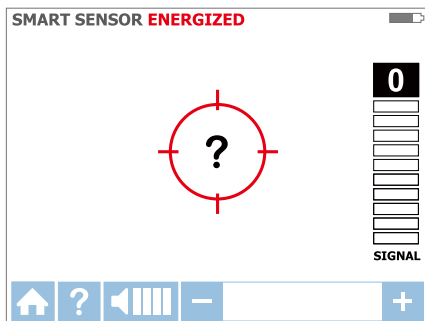

Figure 3.1d: No signal detected
3. Hold the Receiver with the Smart Sensor™ facing the target area. If the screen flashes a "?" in a red target then either no signal is detected or the signal is not adequate enough to display direction. (Figure 3.1d). Move the Smart Sensor™ closer to the target area until the signal is detected and you see a directional arrow. If no signal is detected increase the sensitivity using the "+" button on the Receiver.*